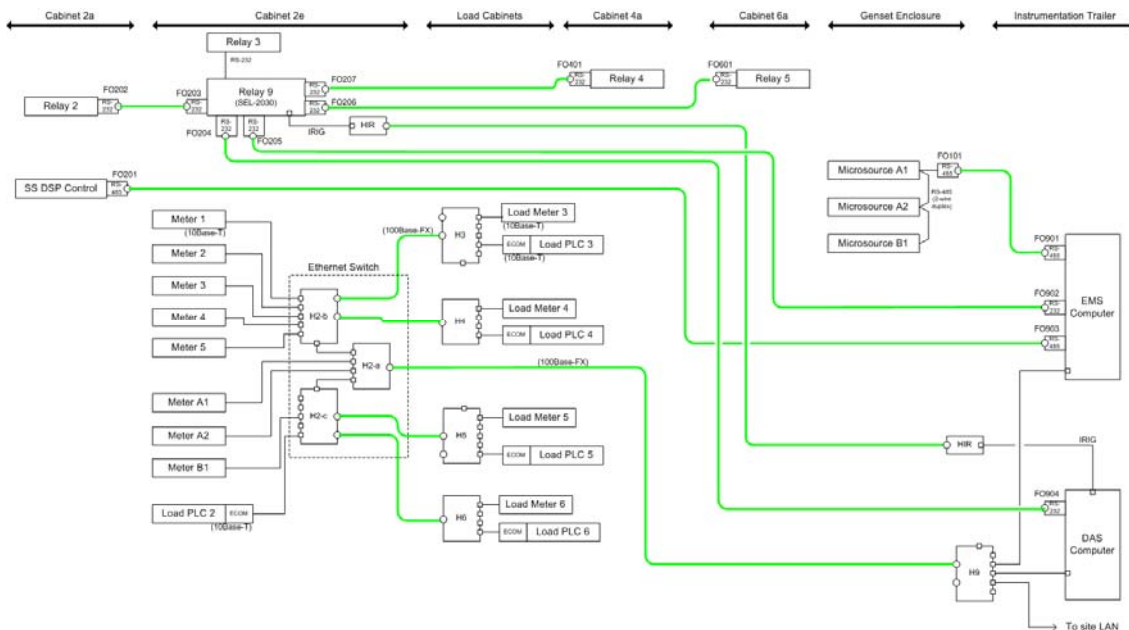

Figure 2 - DAS & EMS Data Network
- 5.6.3 An Ethernet network is provided, as shown in Figure 2, for communications between all meters, load control PLCs, and the DAS computer, using fiber-optic links and switches. The DAS and EMS computers are also networked into the local Dolan LAN. Additional serial links connect all SEL-351 relays, the static switch DSP control, and the Tecogen Gen-set controls to the EMS computer, using fiber optic converters.